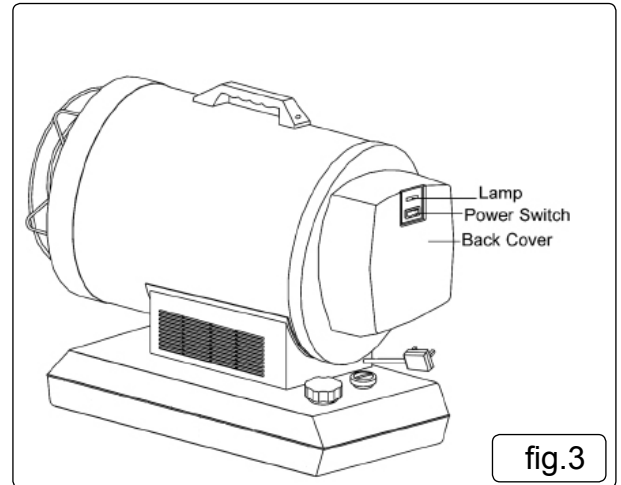

fig.3
5.3.3. Push the power switch to the "ON" position. The power indicator lamp will light and heater will ignite fig.3.